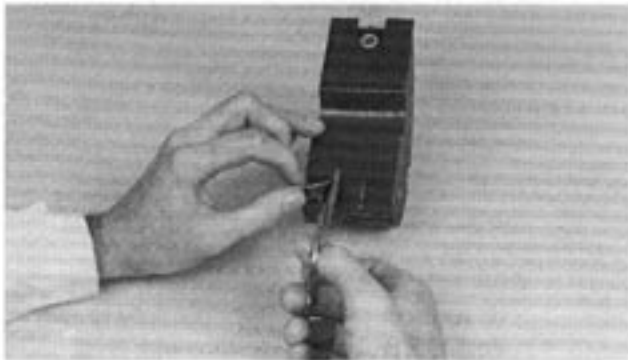

FIGURE 20 - LOCK-TAPE SEALANT APPLICATION TO END PLATE HALF
8.02 When C-Cement becomes tacky, remove protective backing and apply the LOCK-TAPE Sealant, white side down and without stretching tape, to each End Plate half, following the contour of the cables holes. Square cut the tape away from the bolt hole area just beyond metal insert (Figure 20).